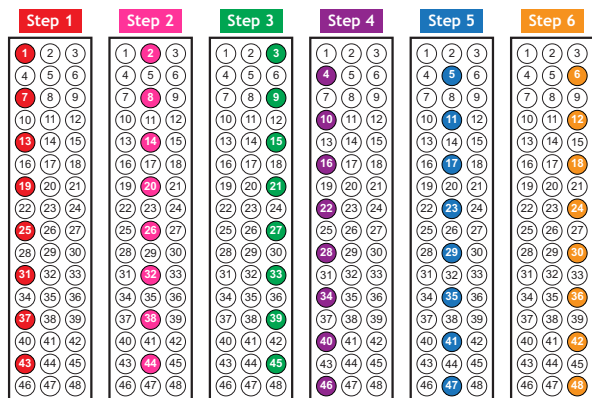

Figure 2 IFC Pipetting Scheme
- Label a 96-well plate using the barcode number on the Access Array IFC. Carefully transfer the harvested samples into columns 1-6 of the pre-labeled 96-well PCR plate. Follow the same pipetting pattern you used to transfer samples from the 96-well plate to the IFC. (For the pipetting scheme, see Figure 2.)